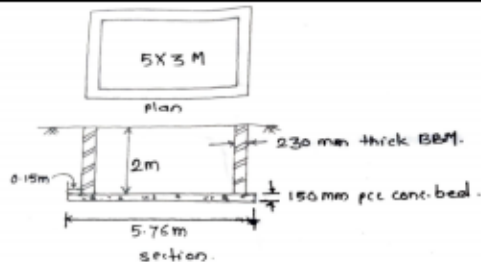

Fig. No. 1
5. Fig. no.1 shows underground water tank .calculate quantity of